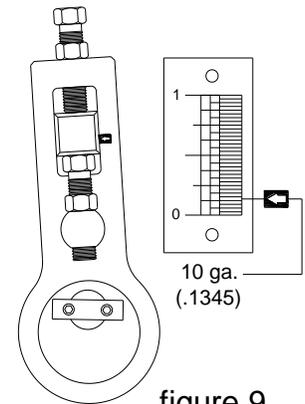

figure 9
1. Set the clamping beam to the thickness of the material you will be bending. (fig. 9) shows the adjusting bolts set for 10 ga. as read on the gauge. See the section on clamping beam pressure adjustments for setting the bolts.